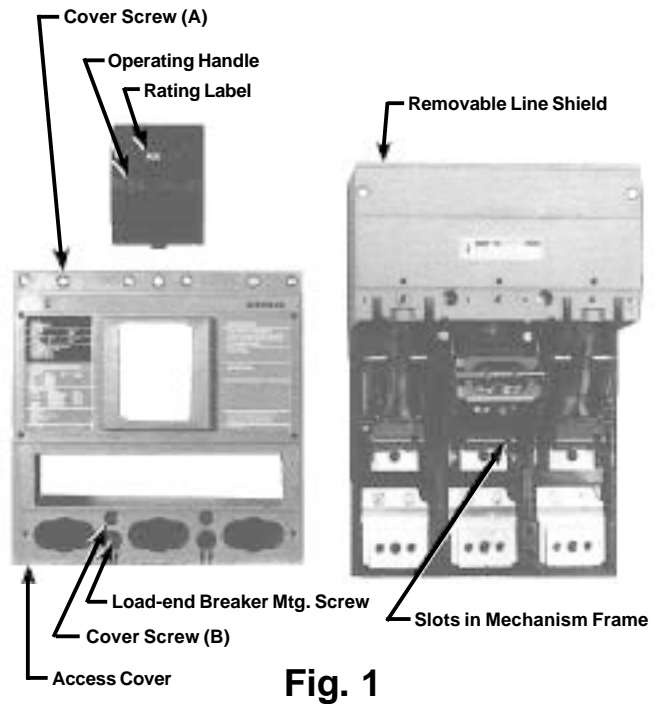

Fig. 1
2. Remove circuit breaker line shield (load end), cover screws (A & B) and access cover. **(Figure 1)**
8. Apply rating label, supplied with trip unit, to recessed area on top of operating handle. **NOTE:** Make sure rating label agrees with amperage rating of trip unit installed. **(Figure 1)**.
3. Remove circuit breaker line shield (load end), cover screws (A & B) and access cover. **(Figure 1)**.